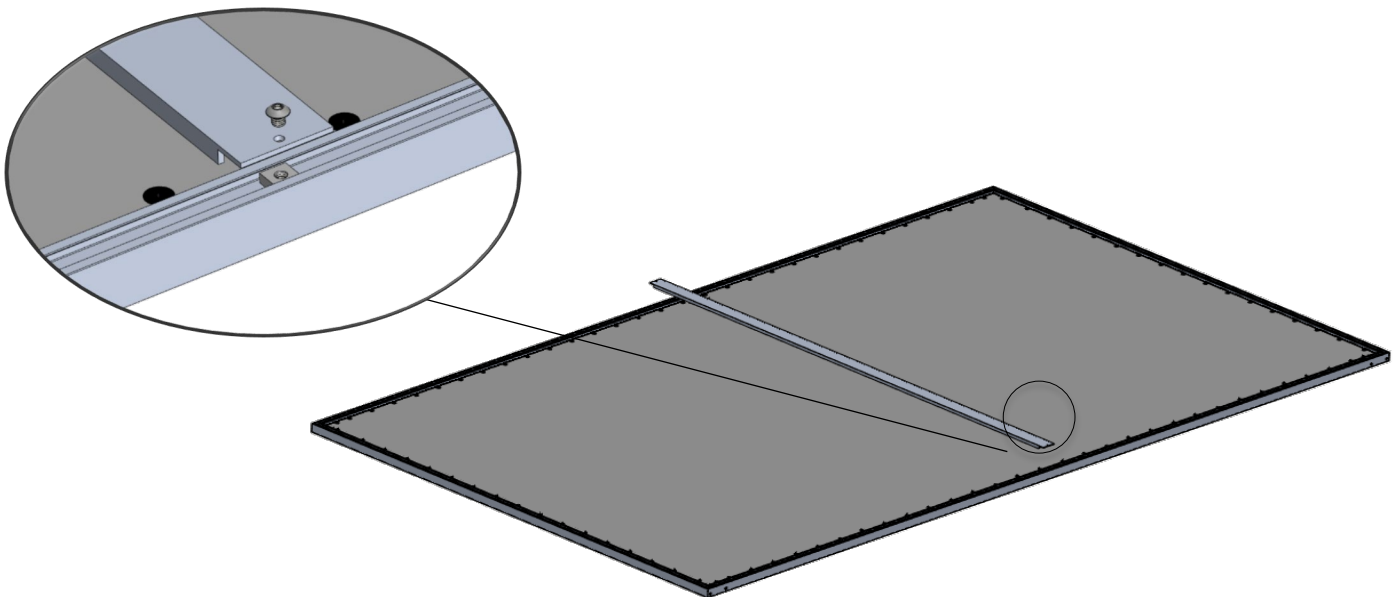

Figure 5: Attaching Back Brace to the Frame
11. Lift the frame with the bottom row of the screen unattached, and attach the back brace to the frame between two snaps near the center with the provided screws or other appropriate fastener (See figure 5) **Note:** your frame may or may not have a back brace depending on the size of your screen.